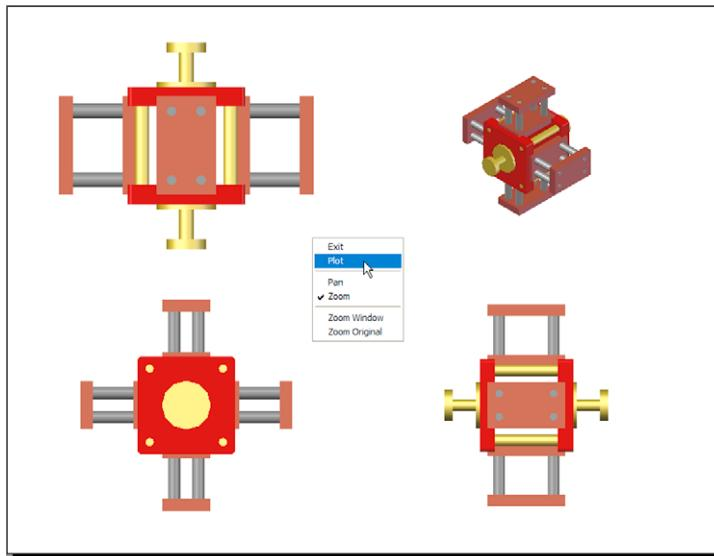

Fig. 15.37 Second example – multiple view copy
## Second example – multiple view copy (Fig. 15.37)
6. If the preview is satisfactory (Fig. 15.37), *right-click* and from the right-click menu *click Plot*. The drawing plots to produce the required four-viewport hardcopy.